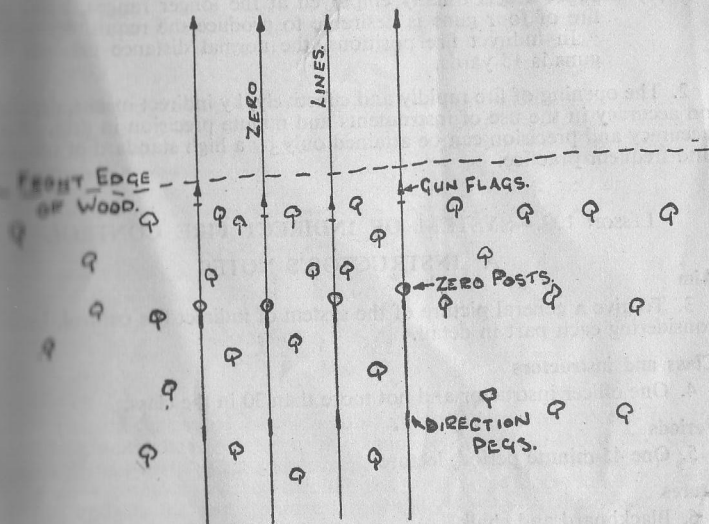

Fig 41
10. Sometimes a position may be selected on the front edge of cover which is in view of the enemy. To avoid exposing personnel in front of the cover, it will be necessary to place the direction pegs and zero posts in rear of gun flags (see Fig 41).